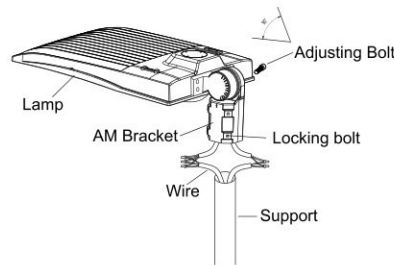

Figure 11
1. ADJUSTABLE FITTER MOUNTING (AM)
- Step 1: Loosen the four bolts on AM bracket, connect the wires correctly, and pull the wires into the poles.(Figure 11)
- Notice: Adjustable angle is 0-90°(Figure 11)